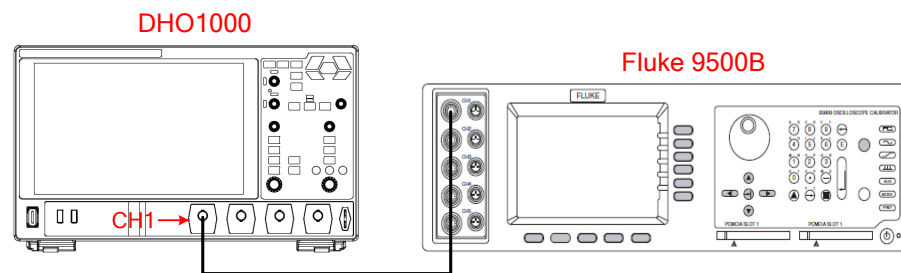

Figure 5.4 DC Offset Accuracy Test Connection Diagram
1. Connect the active head of Fluke 9500B to CH1 of the oscilloscope, as shown in *Figure 5.4*.